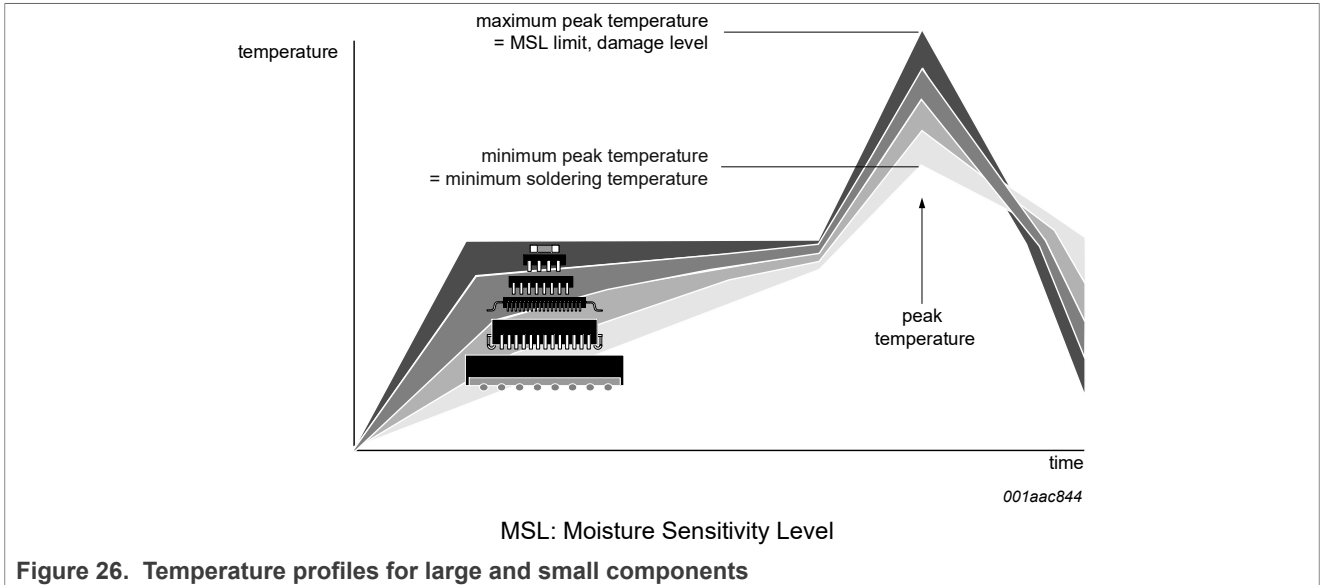

Figure 26. Temperature profiles for large and small components
- Lead-free versus SnPb soldering; note that a lead-free reflow process usually leads to higher minimum peak temperatures (see Figure 26) than a SnPb process, thus reducing the process window
Studies have shown that small packages reach higher temperatures during reflow soldering, see Figure 26.